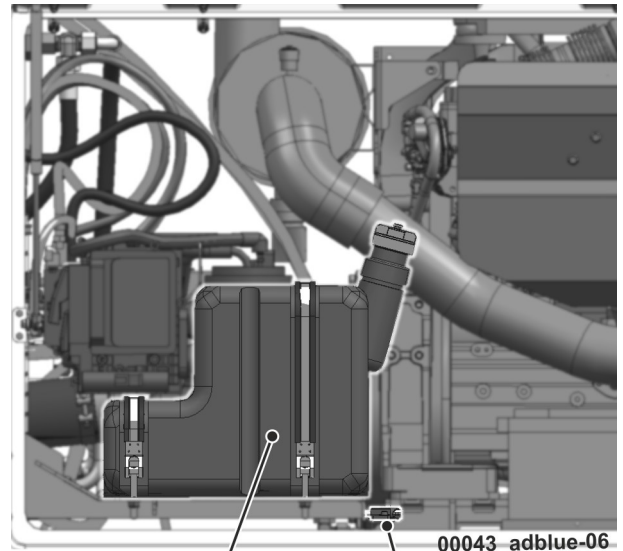

Fig. 39
- Disengage the safety on the slewing arm (2) (**Fig. 39**) / detailed view (1) (**Fig. 40**),